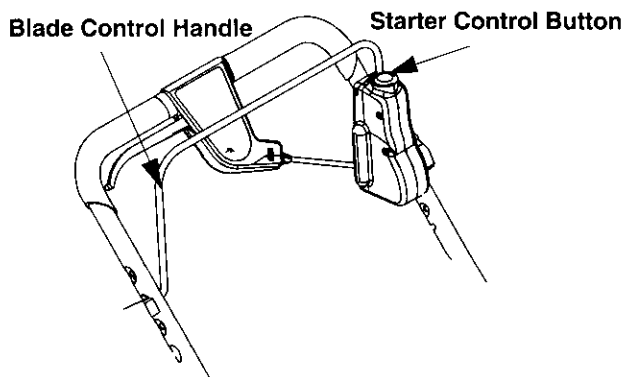

Figure 13
7. Turn safety key 1/4 turn clockwise to RUN position.
11. Using your left hand, pull the blade control handle all the way toward the upper handle. See Figure 13.
3. Turn safety key 1/4 turn clockwise to RUN position.
6. Using your left hand, pull the blade control handle all the way toward the upper handle. See Figure 13. Starter will de-energize and engine will start. (NOTE: if engine does not start, release the blade control handle and follow steps 8, 9, 10, 11 and 12 in the "First Time Starting Engine instructions).